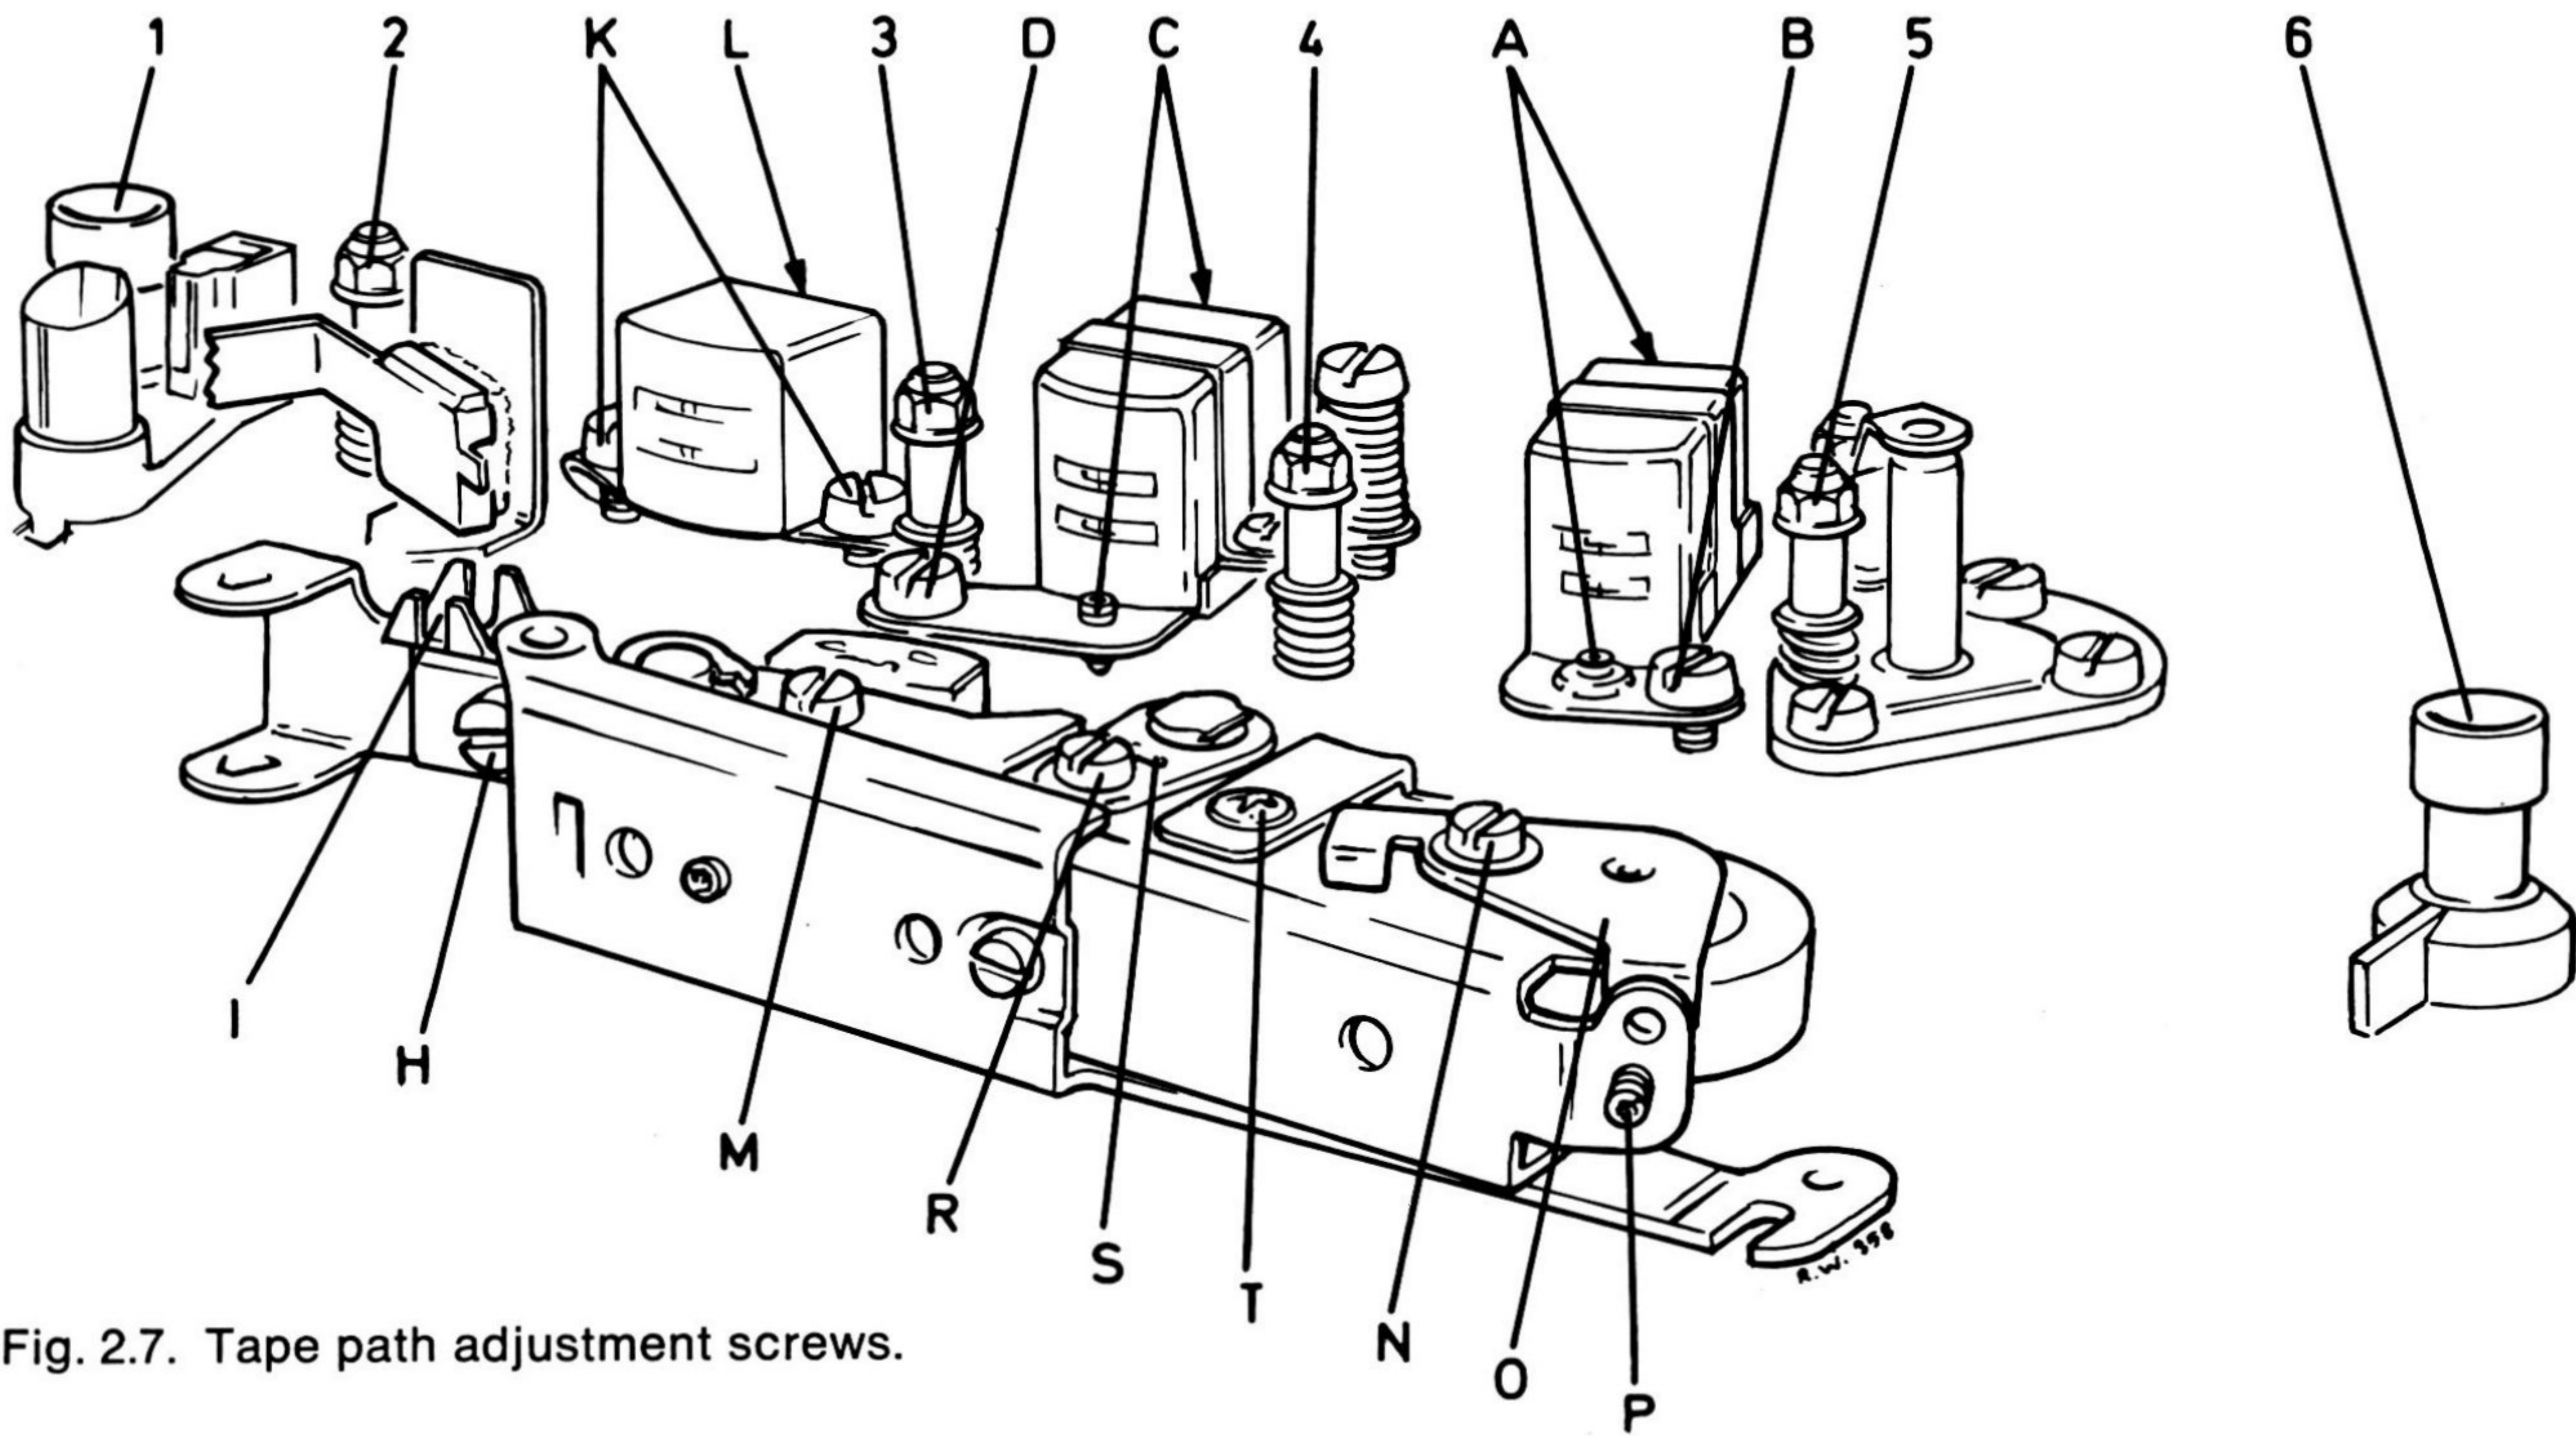

Fig. 2.7. Tape path adjustment screws.
Load the recorder with a tape, and move the operating lever slowly to the normal forward drive position. Check that the bias head neither touches the height adjustment screws C, see fig. 2.7, on the record head mounting plate, nor presses the tape against the record head. Also check that the bias head is parallel to the record head.
Insert a tape and set operating lever to normal forward drive. Check by visual inspection that the capstan and the pinch roller wheel are parallel. If not, adjust by first loosening screw (N), see fig. 2.7, and then adjust with set screw (P) until the wheel and capstan are parallel. Tighten screw (N).
Set the operating lever to normal forward drive with tape on the recorder. Loosen screw R, see fig. 2.7, on the inertia idling roller adjustment plate 291180. Insert a screwdriver in slots of the plate and press forwards or backwards until the idling roller is parallel with the heads. Note that the tape does not bulge on any side of the roller. Then tighten the screw.
By giving the inertia idling roller a light inclination (see paragraph 2.3.6), the roller will give the tape a light upward lift causing the tape to touch the upper flange on the tape guide posts 2, 3 and 4, see fig. 2.7. The result is a precise guidance of the tape past the heads. For a best possible result, readjust the tape guide posts 2, 3 and 4 so that each one slightly touches the tape with the upper flange, taking care to avoid that the tape bulges at any of the guide posts. The guide posts are adjusted in the sequence 4, 3, 2, see fig. 2.7, while the tape is moving at  $7\frac{1}{2}$  ips. Repeat the adjustment until the tape guidance is as smooth as possible.
Play back Tandberg test tape No. 1. This is a full track prerecorded tape with 1000 Hz recorded at 7½ ips and with area corresponding to track 3 reduced by approx. 30 dB. Adjust the height of the playback head by means of the screws (A), see fig. 2.7, until minimum output is obtained from track 3 (channel R), while endeavouring to maintain the headfront parallel to the tape.
Play back Tandberg test tape No. 2. This is a full track prerecorded tape with 10,000 or 15,000 Hz recorded at 7½ ips. Adjust the azimuth position of the playback head by means of screw (B), see fig. 2.7, until maximum indication on the voltmeter is obtained on both channels, or best compromise.
Insert a new tape, and start the recorder in normal forward drive. Check visually that the tape appears to run parallel with the upper track of the record head, with a play of approx. 0.1 mm (0.004"), see fig. 3.2. If necessary adjust the height with screws (C), see fig. 2.7, while endeavouring to maintain the headfront parallel to the tape.